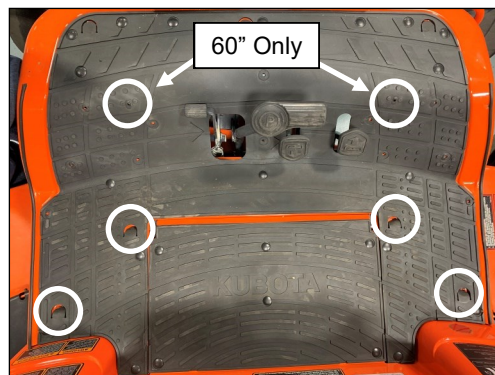

Fig. 4.1 (Remove Bolts)
- 4.1 Remove and discard the four floorboard bolts shown in Figure 4.1. If the mower is a 60", remove two additional bolts in the location shown.